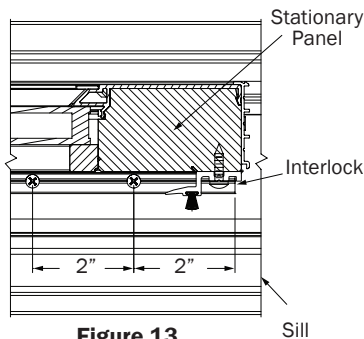

Figure 13
13. Pre-drill 2 holes 2" from end of stationary filler O.C. using a 7/64" drill bit to a maximum depth of 1/4" and line up bit with screw hole scribe (Fig. 13). **DO NOT PENETRATE THROUGH SILL.**